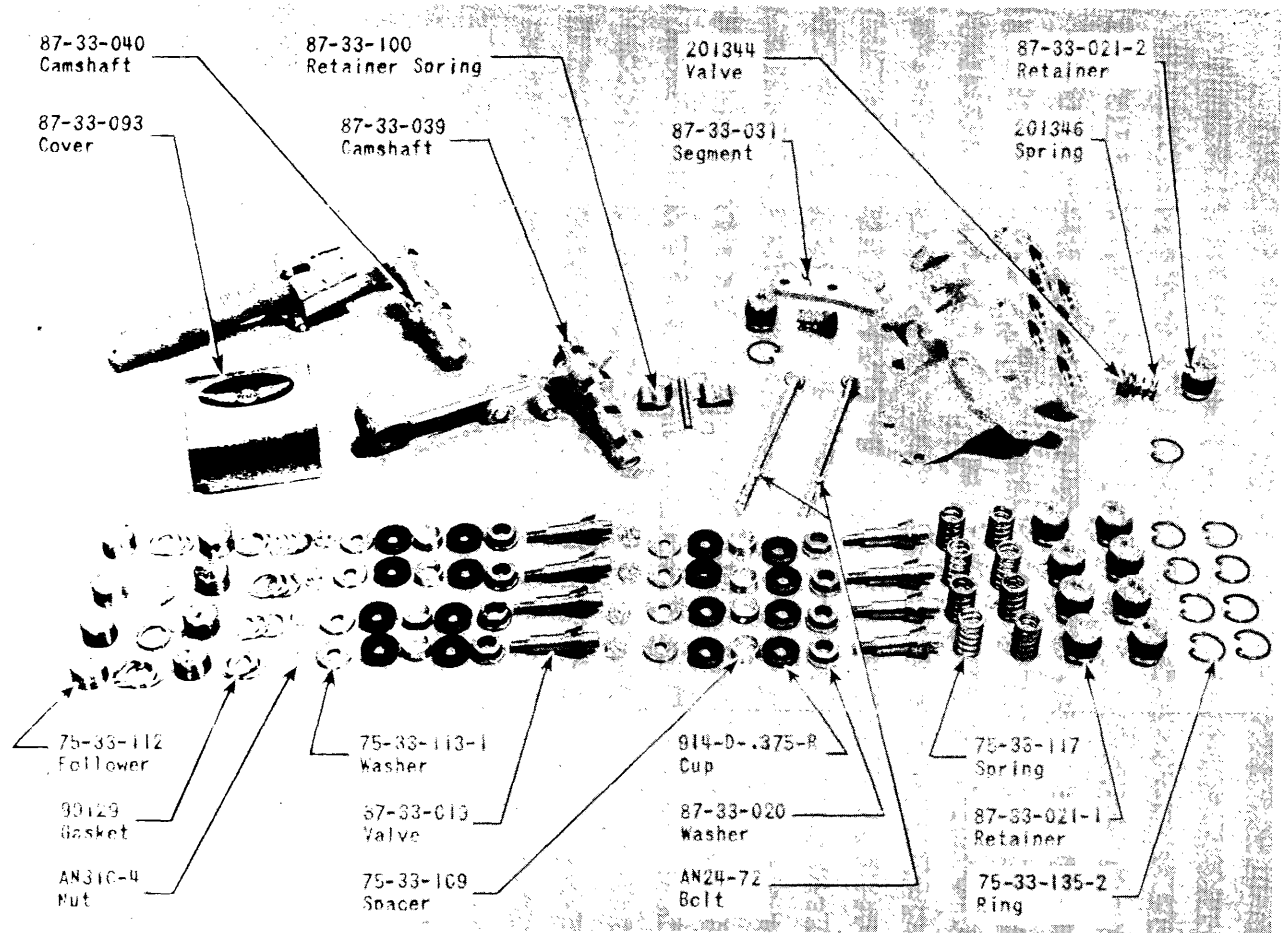

Figure 139 - Hydraulic Control Valve Disassembled
(17) Remove the retainer, the spring, and the valve on each side of the inlet port. The control valve is now completely disassembled. (See figure 139.)